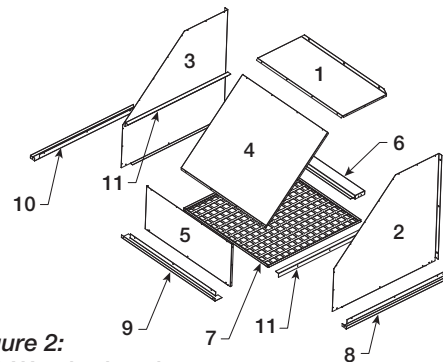

Figure 2:
1. Refer to Figure 2 to identify parts for assembly.
2. Using #12 x 5/8 inch screws, attach side panels (2 and 3) to front panel (5). Overlap the sides with the flange of the front panel.